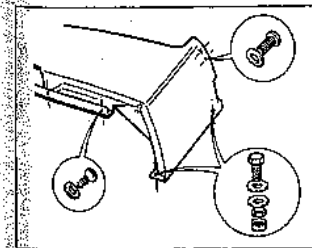

Fig. 12.1 The decker panel and fixings (Sec 8)
- 4 Unbolt and remove the decker panel, the retaining bolt and screw positions of which are shown in Fig. 12.1.